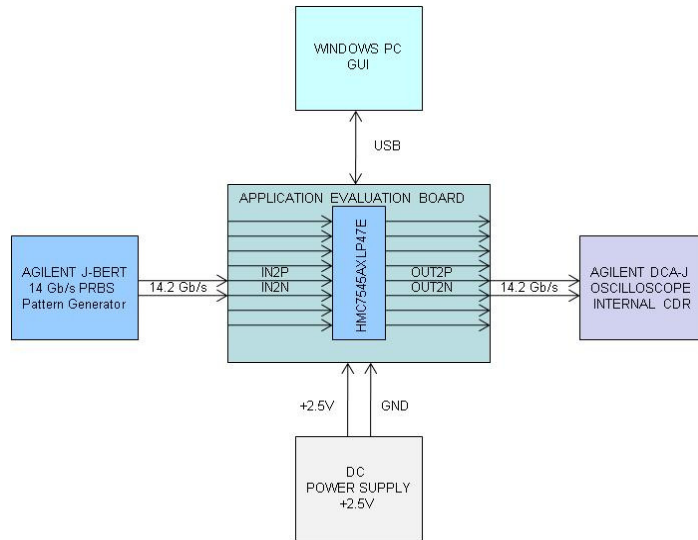

Figure 5. HMC7545AxLP47 EVB Test Equipment Setup: Block Diagram
The test equipment requirements, and setup configuration are shown below in Figures 5 and 6.
- 1) Refer to Figures 5 and 6 in Section 4, above, for recommended test equipment setup configuration.
- 5) Observe output(s) and update/optimize register settings via 1) I2C/GUI Mode, 2) Parallel Mode, or 3) EEPROM Mode settings for Equalization (EQ), and/or De-Emphasis (DE) optimization, as required.